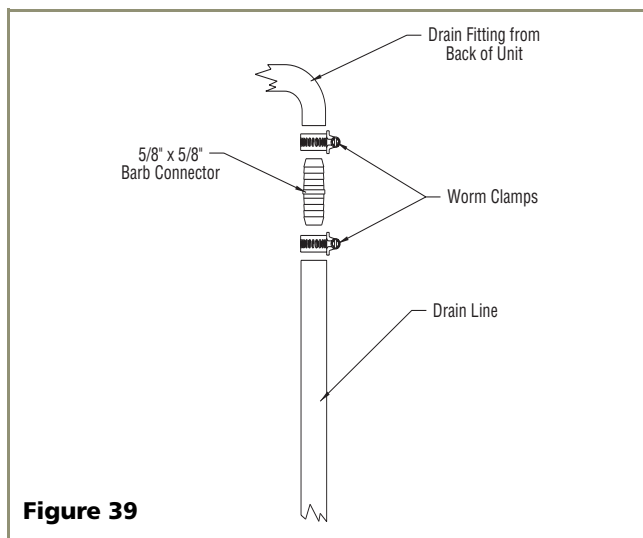

Figure 39
4. Slide a clamp on each side of the barbed fitting as shown (see **Figure 39**).